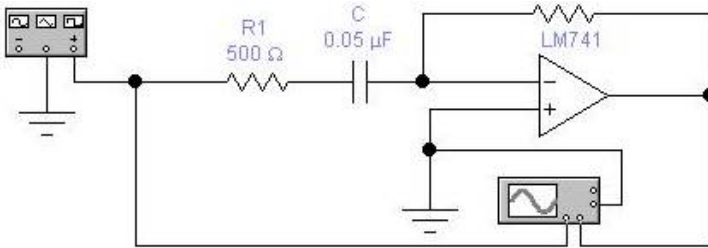

Figure 5.7 – Differentiator scheme
12. Draw a diagram of fig. 5.7.